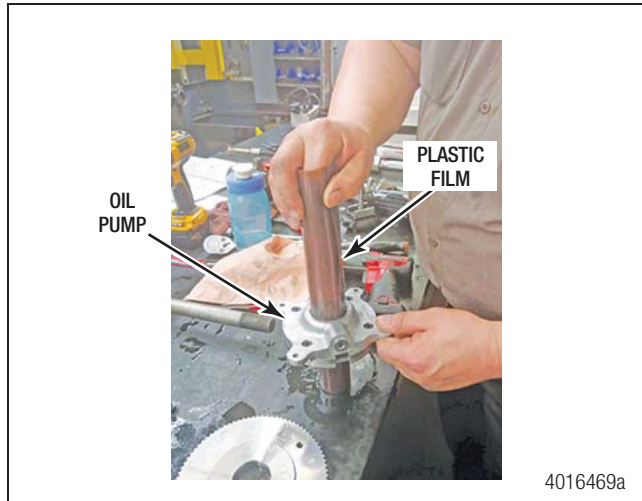

Figure 7.31
13. Wrap plastic film (McMaster-Carr brown plastic 12x24" shim sheet, 0.01" thick, part number 9513K119) around the input shaft prior to installing the oil pump assembly. The film is used to ensure the pump seals stay in place and do not get damaged when the oil pump is installed on the input shaft. Refer to "Tools" on page 60 for more information about this film. Figure 7.31.